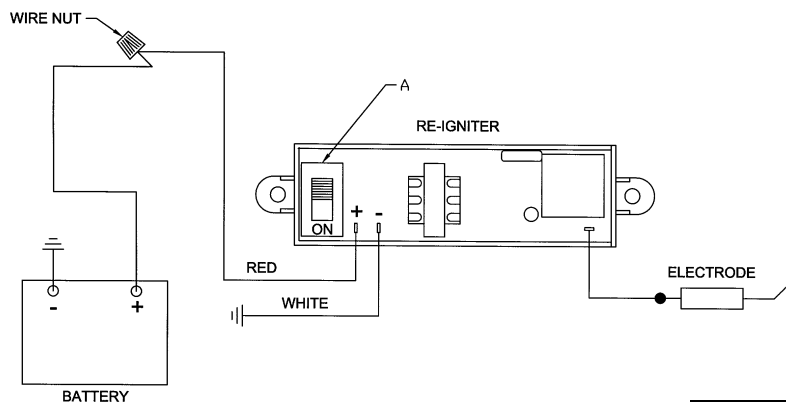

Figure 6
B. Make 12 volt D.C. connections to reignitor as illustrated in Figure 6.